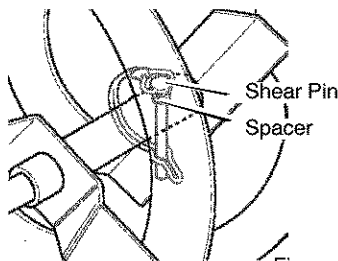

Figure 42
3. Align the hole in the auger with the hole in the auger shaft. Install the new **shear pin** and **spacer**. See Figure 42.